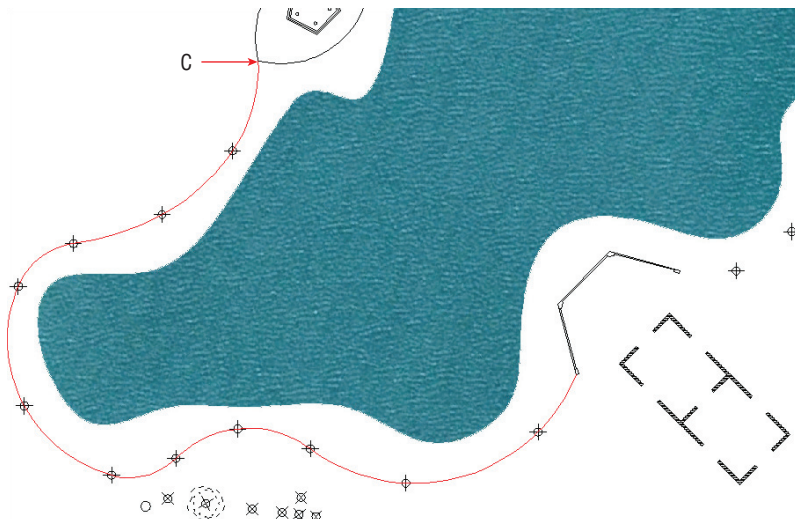

FIGURE 5.3 Drawing a polyline around the left half of the lake
6. Click each subsequent node around the left half of the lake until you reach point C in Figure 5.3. Press Enter to end the PLINE command.